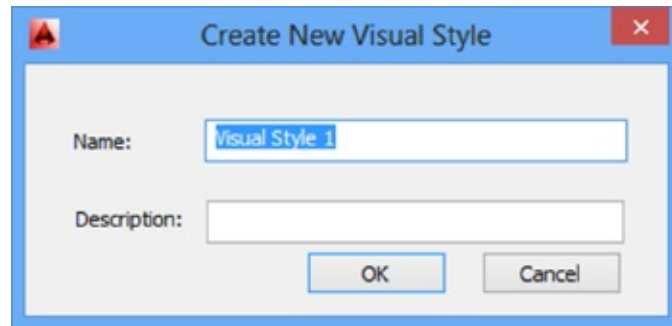

FIGURE 20.42 The Create New Visual Style dialog box
2. Click the Create New Visual Style tool in the Visual Styles Manager toolbar. The Create New Visual Style dialog box opens (see Figure 20.42).